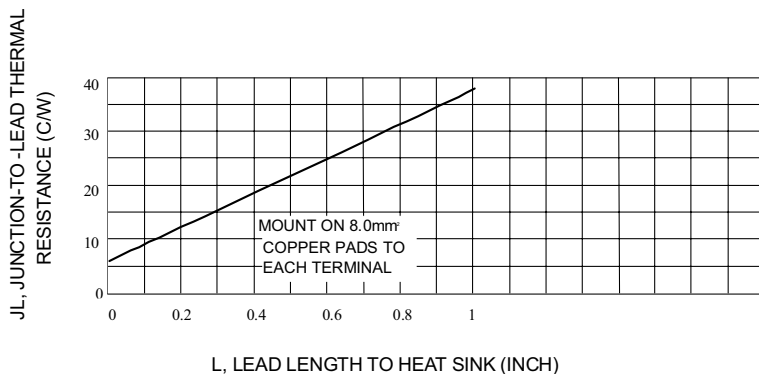
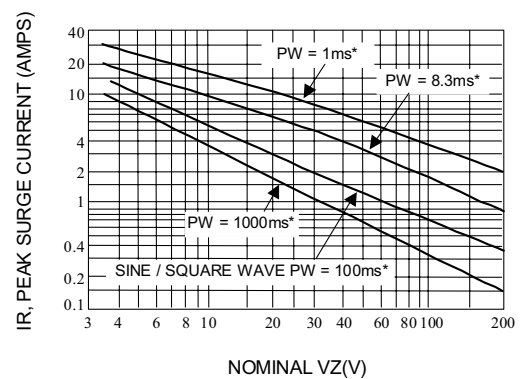

Fig. 4-TYPICAL THERMAL RESISTANCE
Fig. 5-MAXIMUM NON-REPETITIVE SURGE CURRENT VERSUS NOMINAL ZENER VOLTAGE (SEE NOTE 3)
3. SURGE CURRENT (I_r) - Surge current is specified as the maximum allowable peak, non-recurrent square-wave current with a pulse width, PW, of 8.3 ms. The data given in Figure 5 may be used to find the maximum surge current for a square wave of any pulse width between 1 ms and 1000ms by plotting the applicable points on logarithmic paper. Examples of this, using the 6.8v, is shown in Figure 6. Mounting contact located as specified in Note 3. ($T_A=25^\circ\text{C}$).
ΔT_{JL} is the increase in junction temperature above the lead temperature and may be found from Figure 4 for a train of power pulses or from Figure 1 for dc power.
Data of Figure 4 should not be used to compute surge capability. Surge limitations are given in Figure 5. They are lower than would be expected by considering only junction temperature, as current crowding effects cause temperatures to be extremely high in small spots resulting in device degradation should the limits of Figure 5 be exceeded.
*** Data of Figure 3 should not be used to compute surge capability. Surge limitations are given in Figure 5. They are lower than would be expected by considering only junction temperature, as current crowding effects cause temperatures to be extremely high in small spots resulting in device degradation should the limits of Figure. 5 be exceeded